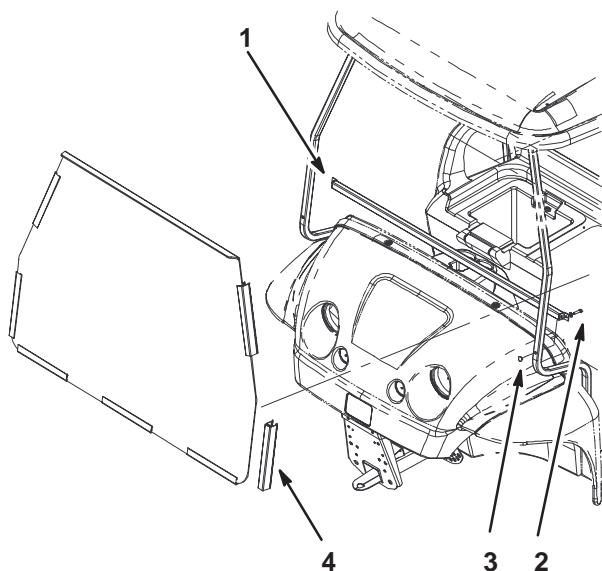

Figure 1
2. Attach the windshield tube to the front support tubes on the canopy using 2 screws, flat washers, and capped nuts (Fig. 1).
4. Install the snap-on clips to windshield as shown in Figure 1.
5. Attach the snap-on clips on the side of the windshield to the canopy frame. Align the clips on the bottom of the windshield with the windshield tube and press the windshield securely into place (Fig. 1).